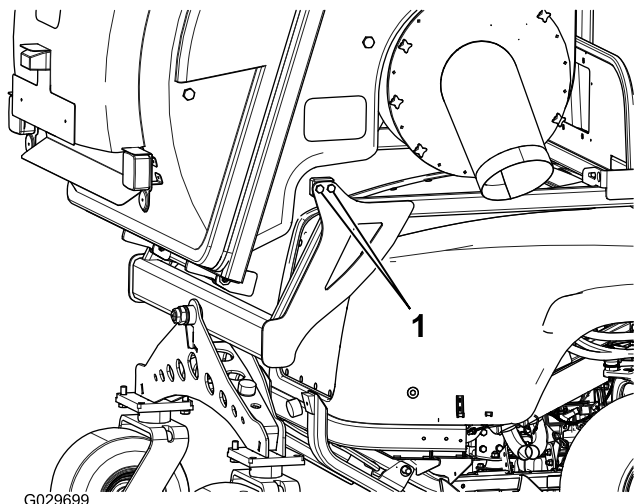

Figure 9
- Secure the high-lift-collection assembly to the rear of the carrier frame using 4 bolts, 2 on each side of the assembly (Figure 9).